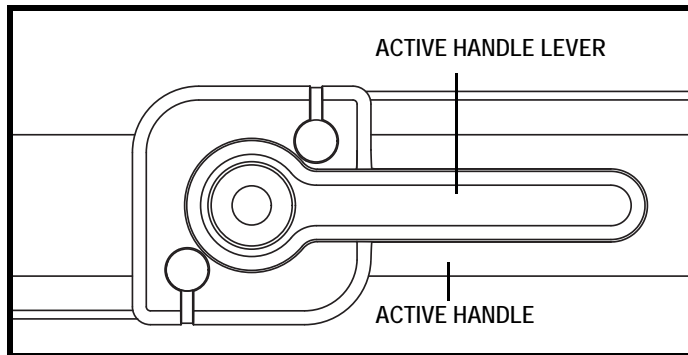

Figure 14. The Kids FAST ACTIVE Handle (OFF)
2. Ensure that the ACTIVE handle lever, which is located on the front of the ACTIVE handle, is in the OFF position (parallel to the ACTIVE handle). See **figure 14**.
4. Apply forward pressure to the push handle, and turn the ACTIVE lever to the OFF position (parallel to the ACTIVE handle). See **figure 14**.